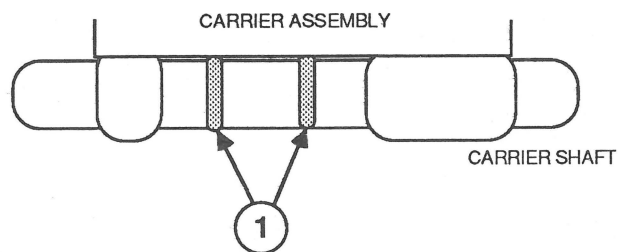

FIGURE 30
13. Turn the carrier assembly and the carrier shaft over. Slide the carrier shaft free of the carrier assembly. There are two felt wipers (for lubrication purposes) where the carrier shaft slides through the carrier assembly. Remove them (Figure 30, #1).